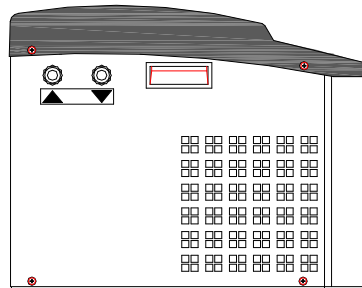

Fig. 1
- For connecting the circuit, make sure that the entry of water corresponds to fig. 1:
- Make sure that the level of water is between the maximum and the minimum (see fig.1)